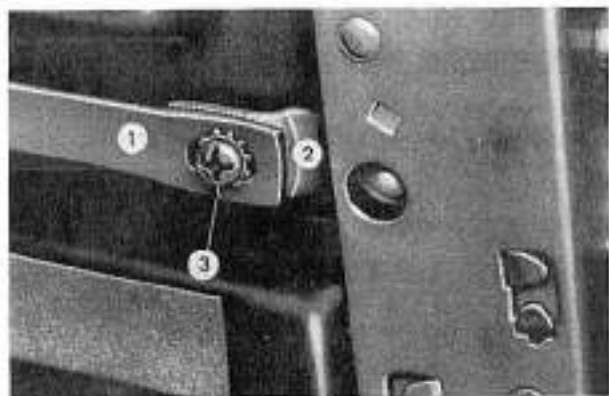

FIG. 364
The length of the remote control link is adjustable. The elongated hole in the link (1, Fig. 364) permits shifting of the link so that the link assembly will properly trip the door latch. To make the adjustment, loosen the retaining screw, shift the link (2) toward the center of the door, and the link (1) toward the outside edge of the door just enough to take up the slack of the assemblies at each end. Then tighten the retaining screw. If properly adjusted, the latch will not be released or free until the remote control mechanism reaches its full open position. Serrations on both parts of the link prevent the loss of adjustment.